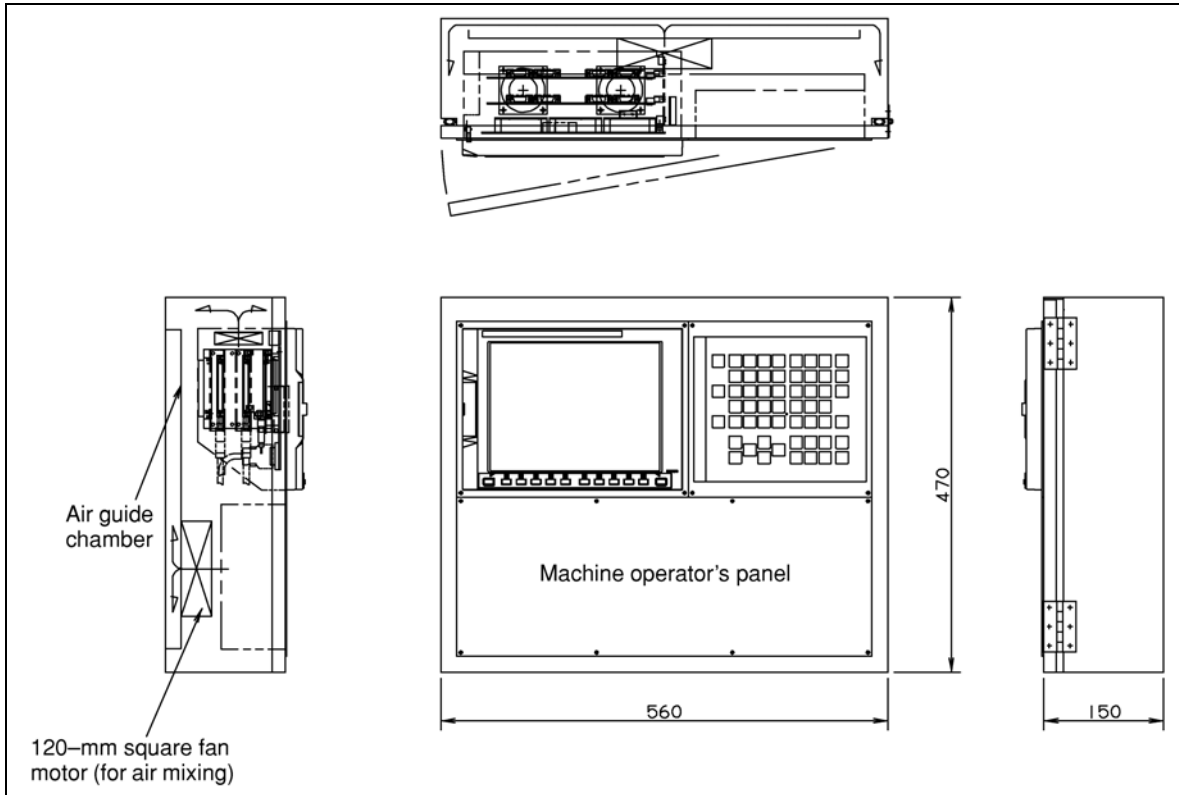

Fig. 3.4.3
An example of the thermal design for the cabinet shown in Fig. 3.4.3 is shown below.
Dimensions of pendant type cabinet shown in Fig. 3.4.3 : 560(W) × 470(H) × 150(D) mm